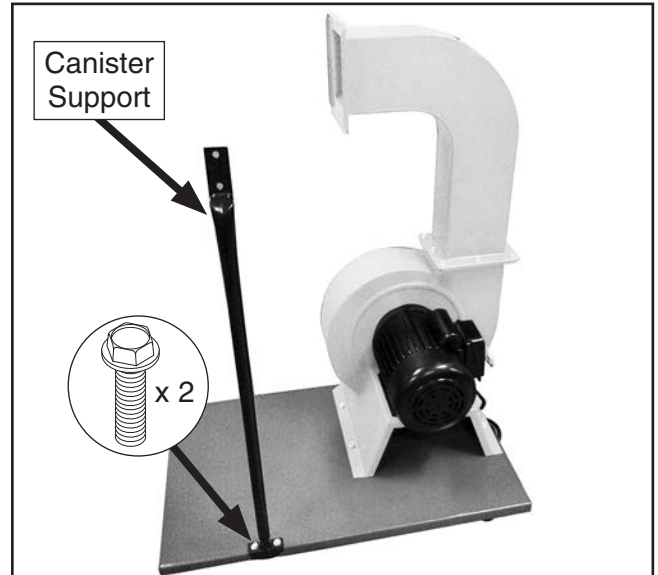

Figure 15. Canister support installed.
- Align the canister support with the mounting holes on the base, as shown in **Figure 15**, then secure it in place with (2) $\frac{5}{16}$ -18 x $\frac{1}{2}$ " flange bolts.